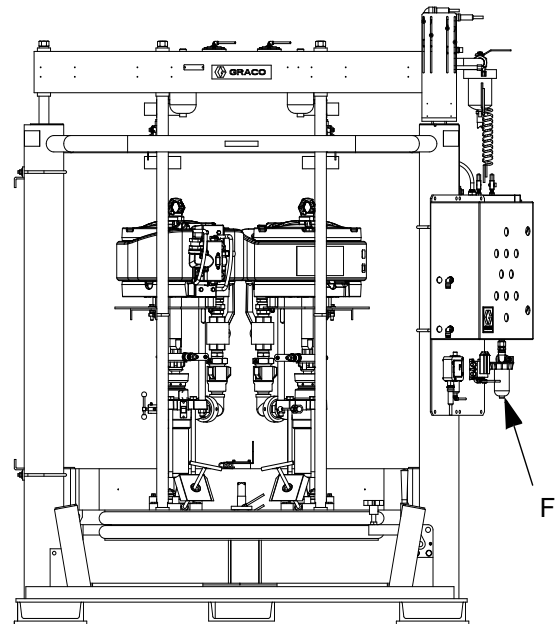

FIG. 23
- The Pneumatic Panel Air Filter (F) between the air supply source and the Pneumatic Logic Panel (G). See FIG. 23.